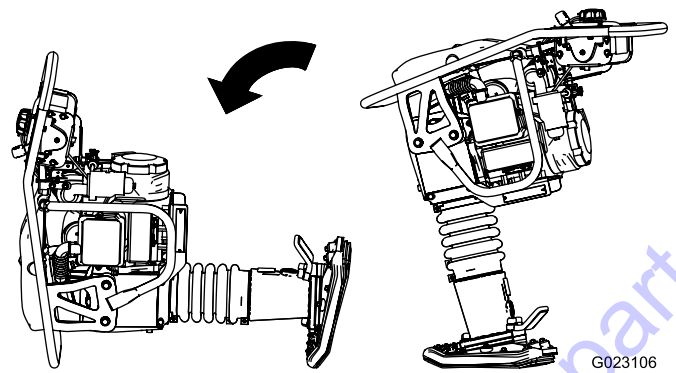

Figure 12
3. Carefully position the machine as shown in Figure 12, and secure it with straps or chains to prevent it from moving or tipping.